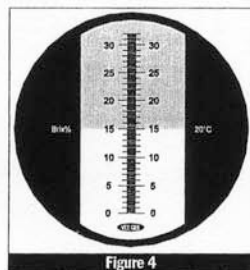
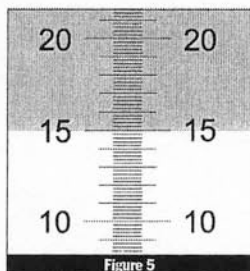

Figure 4
Figure 5
- 4 When the refractometer scale is viewed through the eyepiece, the upper field of view will be seen as blue and the lower field will be seen as white (Figure 4). The reading is taken at the point where the boundary line of the blue and white fields crosses the scale (Figure 5). The value is the Brix% reading of the sample.